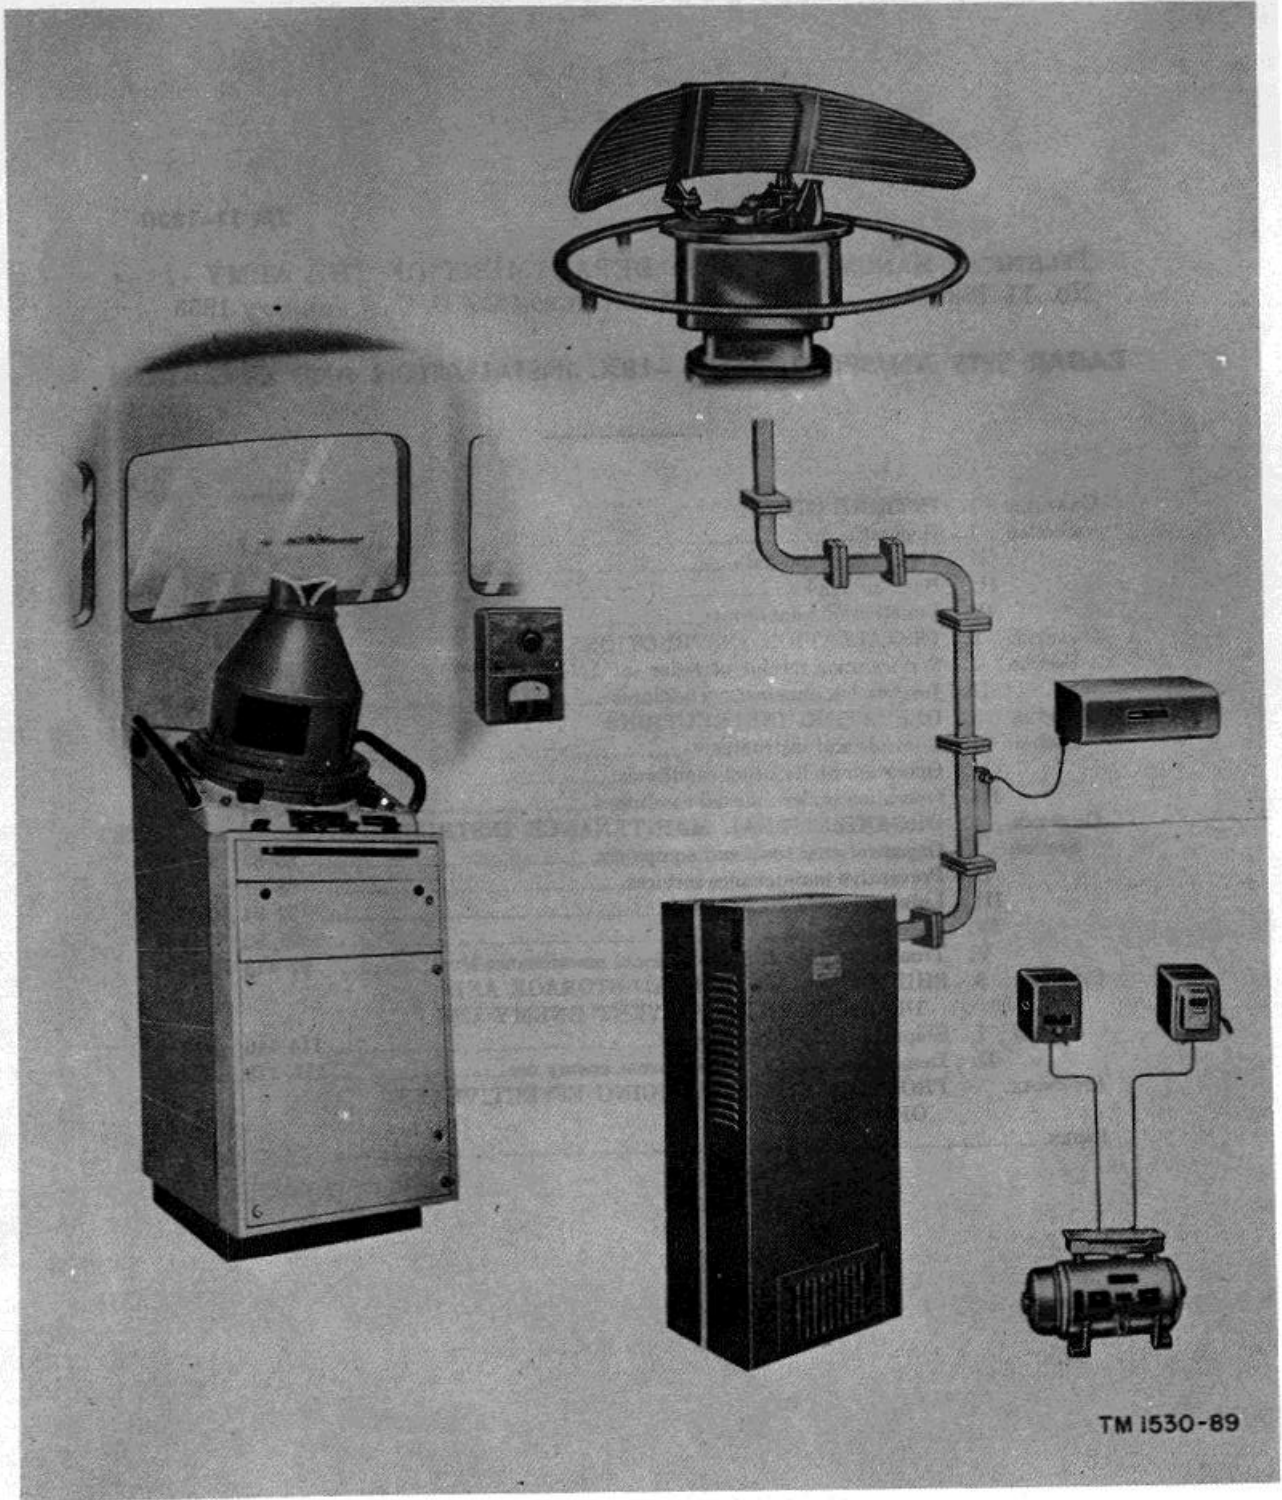

Figure 1. Radar Set AN/SPN-18.
a. This technical manual contains instructions for the installation, operation, and organizational maintenance of Radar Set AN/SPN-18(*) (fig. 1). It presents an explanation of the chief functions of each major group of components but does not include discussions of circuit theory. A separate instruction book covers the theory, troubleshooting, and repair of this radar set.
Radar Set AN/SPN-18(*) (fig. 1) is a shipboard navigational radar which provides position data on vessels and landmarks. The radar set operates in the 9,320- to 9,430-mc (megacycle) frequency band, with a range of approximately 55 yards to 40 nautical miles. The radar set is used for the following purposes: